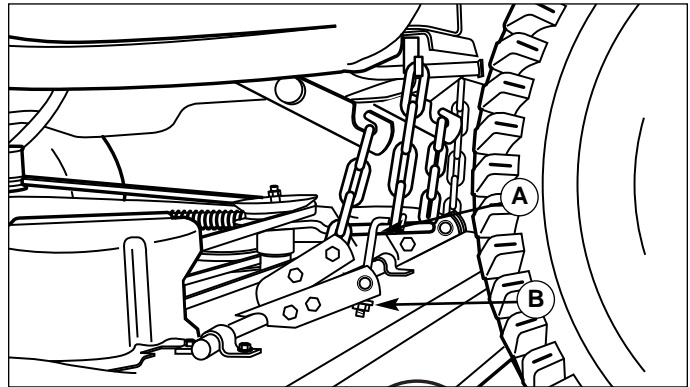

Figure 39. Leveling The Mower Side-to-Side, J-Hook Models
5. See Figure 39. Hold J-Hook (A) turn locknut (B). Turn the locknut (B) to raise or lower left-hand side of mower.